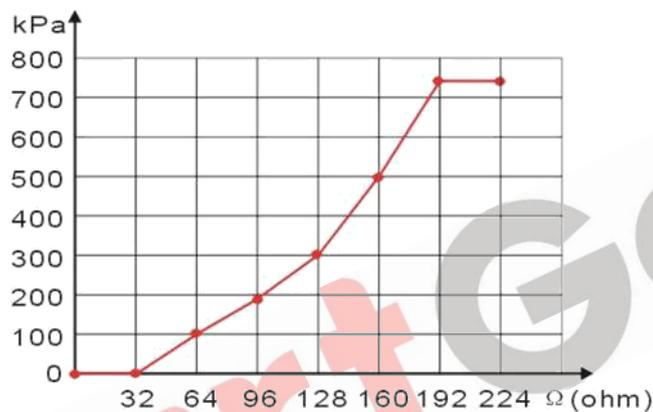

Fig. 3 Sensor Curve
- It is applicable to set the headmost and backmost values in the vertical coordinate as the same as the Figure 3.